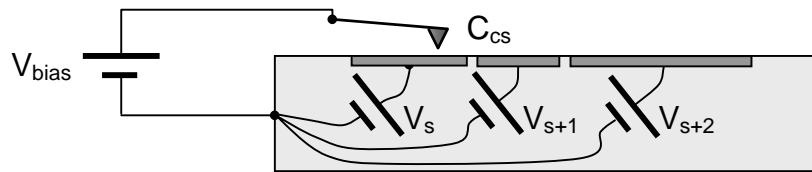
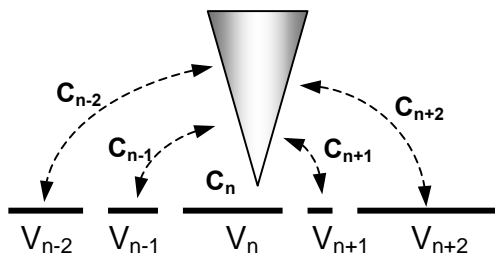

Figure 14-1 A simple model for understanding EFM.
Figure 14-2 The cantilever experiences forces from many surface areas with different surface-probe capacitances.
As a starting point, the following simple model will be used to describe the technique. The EFM probe is generally a regular silicon cantilever with a 50 nm front coating of metal so that the lever and point can be electrically connected to a voltage source and held at a controlled potential. The model surface is taken to be a perfectly flat metal which has surface patches of varying potential, as illustrated in Figure 14-1. A concrete example of this might be a polished plate of heterogeneous metal, where the work function differences in the metal grains provides the varying surface potentials. An external bias voltage V_{bias} is applied between the sample bulk and the cantilever. The voltage difference between the cantilever and the surface V_{cs} can be thought of as the external bias voltage V_{bias} minus a local internal voltage difference V_s between the bulk and the area directly beneath the probe: $V_{cs} = V_{bias} - V_s$.
- If the bias voltage is set to zero and the adjacent surface potentials in Figure 14-1 are of roughly equal magnitude but opposite sign (Configuration 1) then there is no difference in the EFM signal (i.e., F_o') over the two regions. But note that as the probe passes between the two regions the average voltage experienced by the probe will go through zero. Therefore along the boundary lines between the regions it may be possible to see EFM image contrast in the form of a dip in the signal amplitude.
1. It is necessary to consider the fact that the cantilever point generally experiences forces from the fields of many different patches of potential, not just one individual patch as suggested by the model in Figure 14-1. The contributions of the different patches to the total force will depend on the value of V_s for each patch and the capacitance between the patch and the probe point, as indicated in Figure 14-2. The size of the patches, the size of the probe point, and the distance between the probe point and the surface all influence how much of the net electrostatic force is due to the patch immediately beneath the probe and how much is due to the rest of the neighborhood.